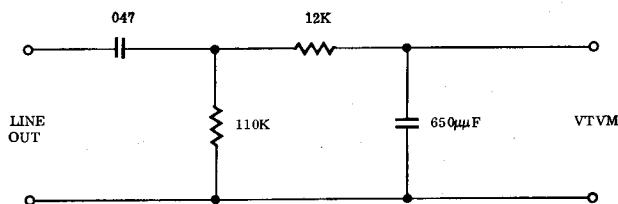

Fig. 5-4 Noise Filter
- Bandpass Filter (See Fig. 5-4)
schematic diagram of the necessary filter is shown on Fig. 5-4.